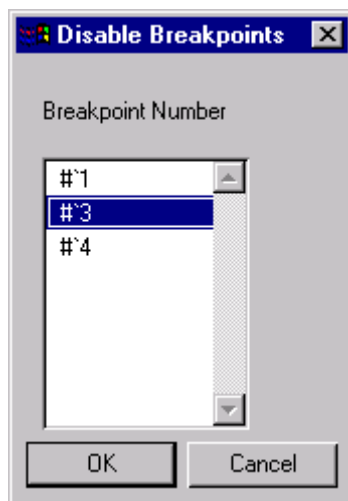

Figure 3-8. Disable Breakpoints Dialog Box
1. From the Execute menu, choose Breakpoints, then select **Enable** or **Disable**. A dialog box similar to the one in Figure 3-8 appears.